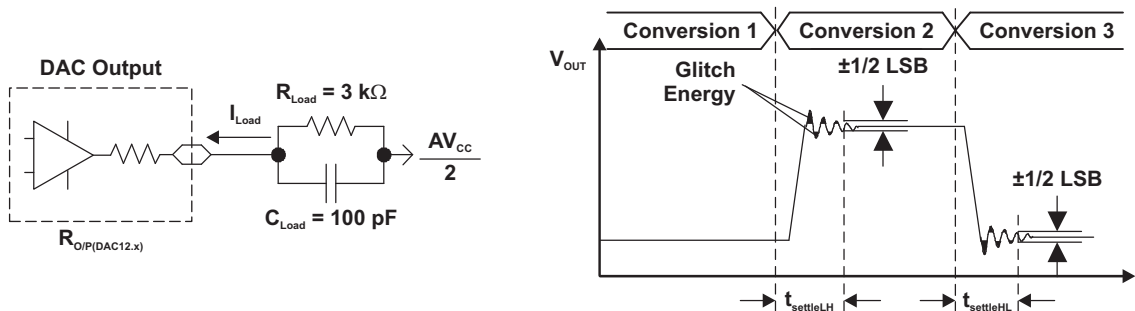
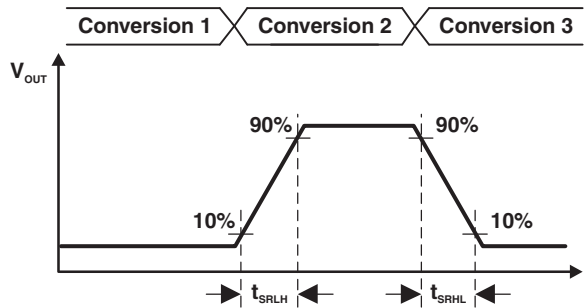

Figure 11. Settling Time and Glitch Energy Testing
Figure 12. Slew Rate Testing
V_{REF} = V_{CC}, DAC12IR = 1 (see Figure 11 and Figure 12)
(1) R_{Load} and C_{Load} connected to AV_{SS} (not AV_{CC}/2) in Figure 11.
(2) Slew rate applies to output voltage steps ≥ 200 mV.